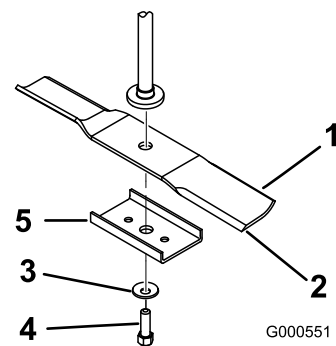

Figure 44
Hold the blade end using a rag or thickly-padded glove. Remove the blade bolt, curved washer, blade stiffener (42 inch models only), and blade from the spindle shaft (Figure 44).
1. Install the blade onto the spindle shaft (Figure 44).
2. Install the blade stiffener (42 inch models only), the curved washer (cupped side toward the blade) and the blade bolt (Figure 44).